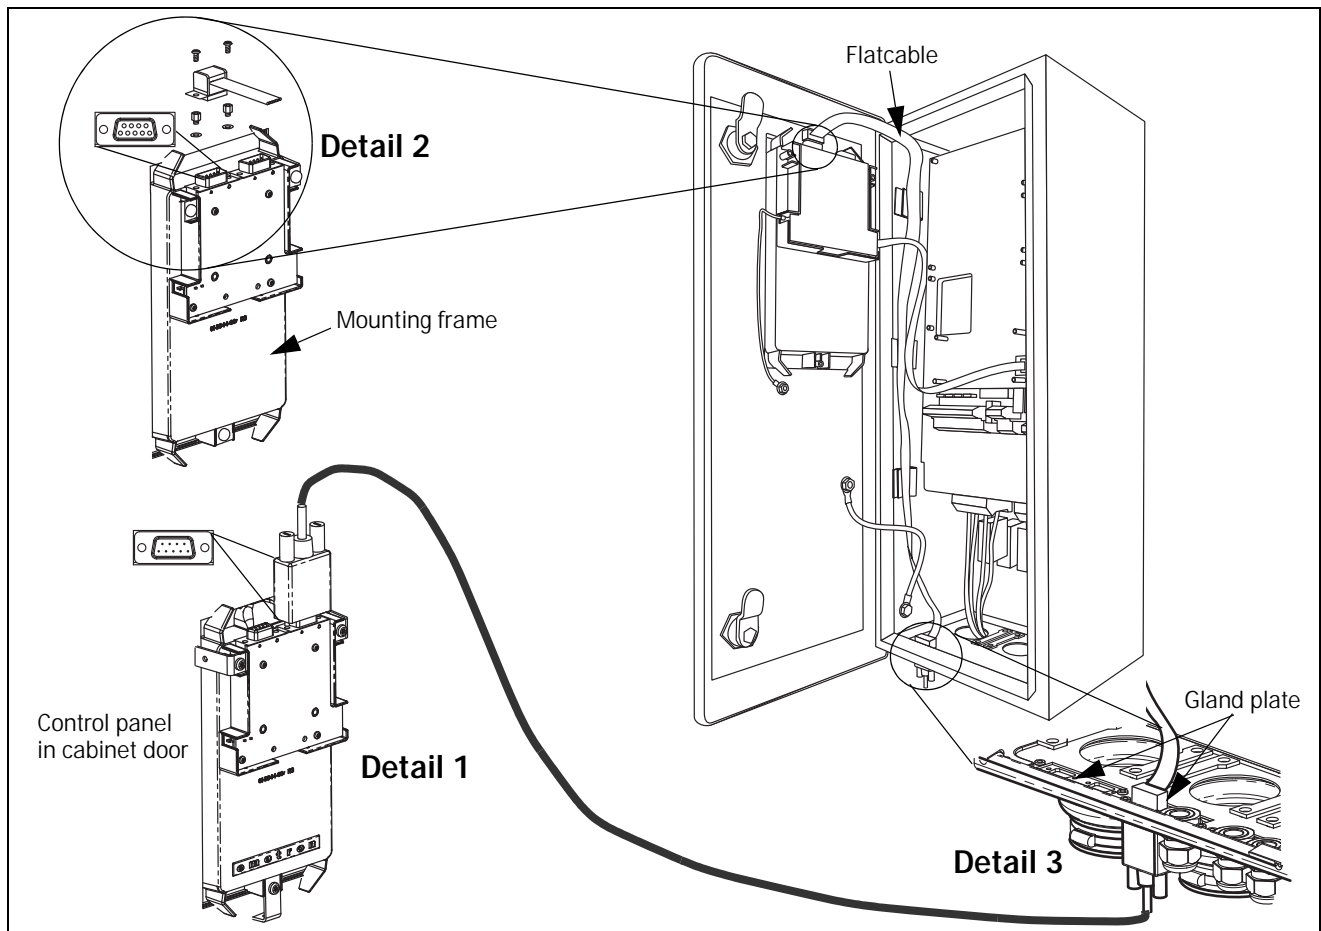

Fig. 3 External control panel
4. Remove the gland plate at the bottom of the AC drive. See Fig. 3, detail 3.
5. Mount the gland plate with D-sub contact according to Fig. 3, detail 3.
8. Mount the spacers and washers on the female D-sub contact on the back of the control panel in the AC drive door. See Fig. 3, detail 2.
9. Connect the ribbon cable, male connector, according to Fig. 3, detail 2. and fasten it with 2 screws.
10. Connect the standard RS232 cable, female connector, between the gland plate in the bottom of the AC drive and the back plane of the control panel in the cabinet door according to Fig. 3, detail 1.